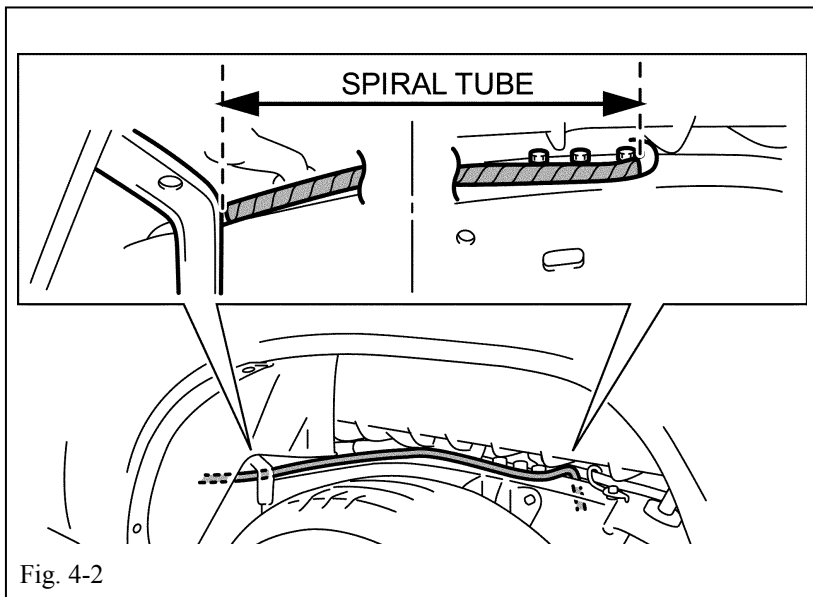

Fig. 4-2
- (1) Route the wire harness spiral tube to the position shown in the figure. (Fig. 4-2)